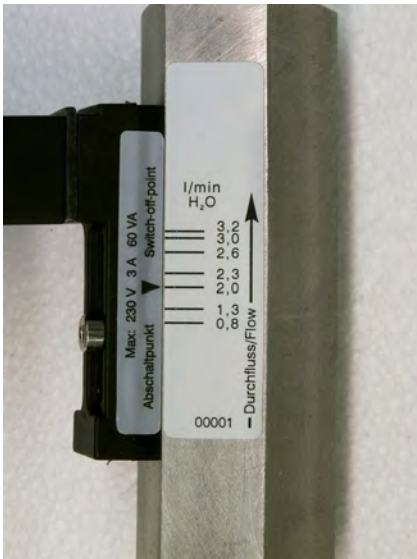

Fig. 33: Reading-off the switch point value (example scale)
1.  Make sure that the setting arrow and the scale mark on the switchpoint adjustment scale are in alignment (Fig. 33).